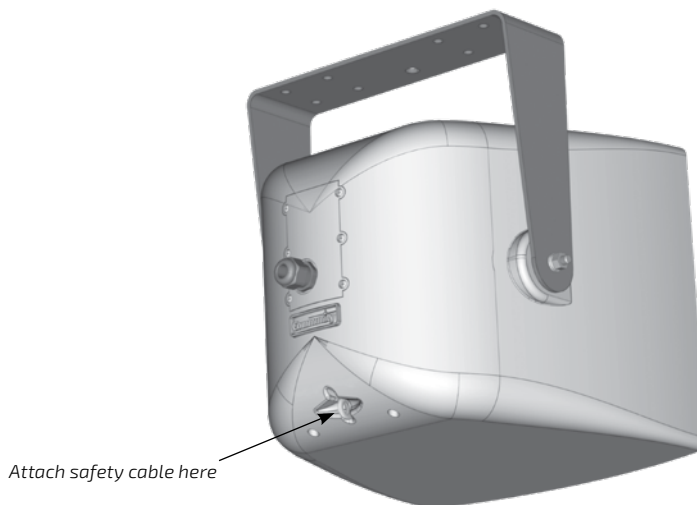

Figure 4. Attach the safety cable
4. Attach a safety cable to the integrated eyebolt on the rear of each loudspeaker (see **Figure 4**). The safety cable and hardware are not included. Please consult a structural engineer for the appropriate cable for the load and application. The safety cable must be secured to a suitable load-bearing point separate from the loudspeaker mounting point, with as little slack as possible, so as not to develop undue kinetic force if the primary mounting were to fail.